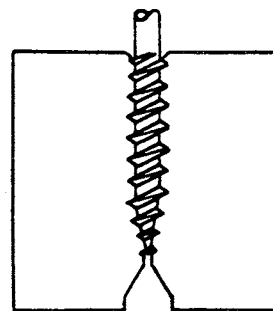

FIG. 33
Dies for gimlet point threads are made for single settings and always have single faces, as shown in Fig. 33. The rise on the face of the die which rolls
**For Single Setting of Dies (Fig. 33)**